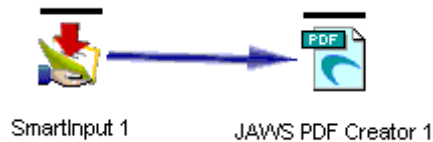

Figure 4.5 SmartInput and PDF Creator modules linked
7. Click the hand on the PDF Creator module to create the link, as shown in Figure 4.5.